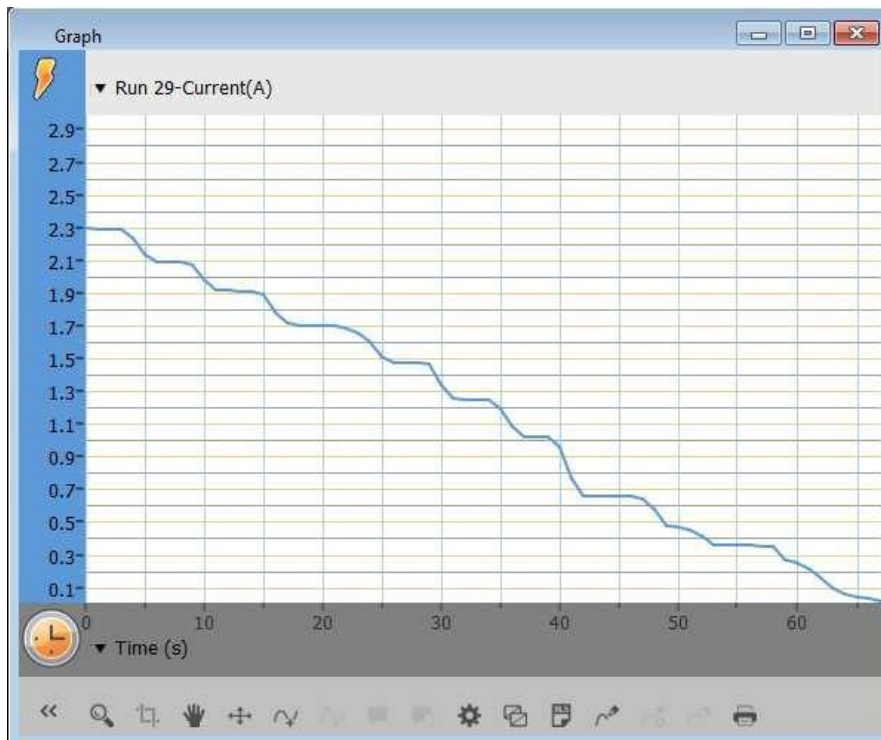

Figure 1. Sample graph from the above experiment
4. See the expected results - Figure 1.